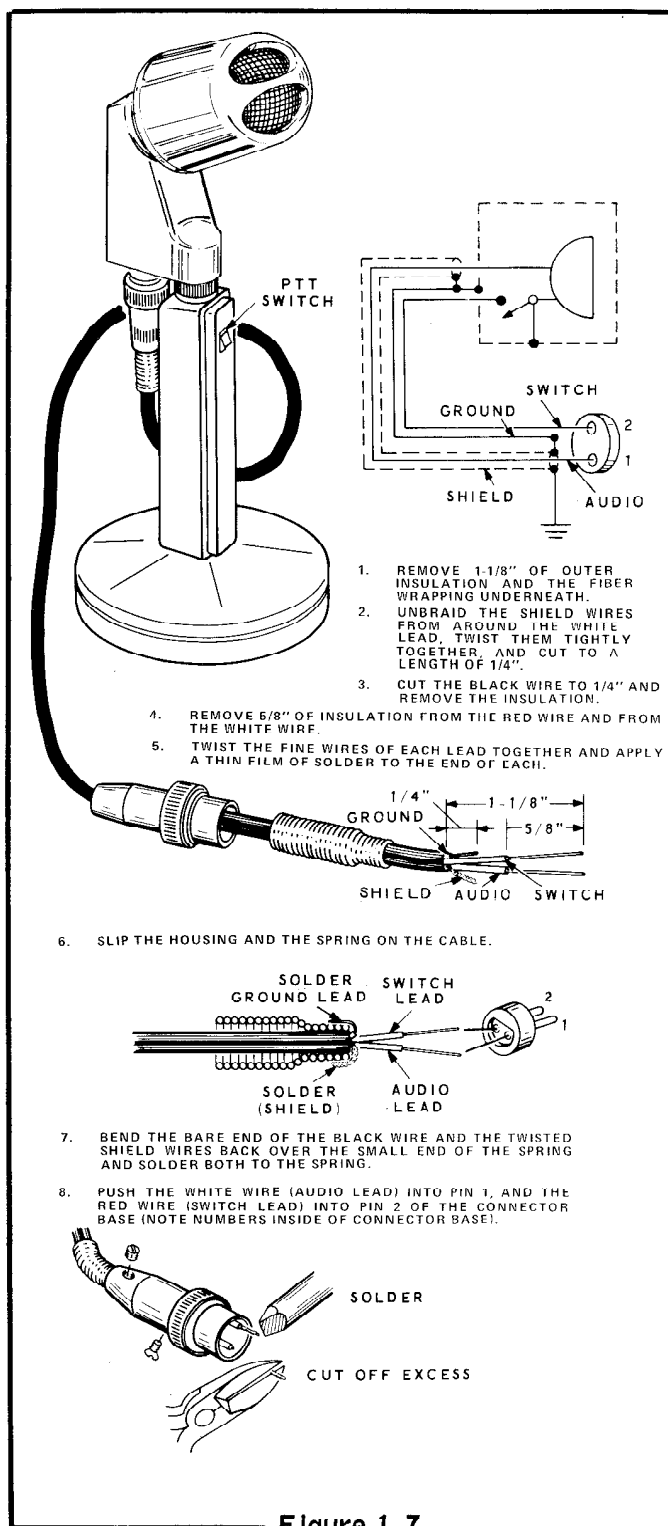

Figure 1-7
Refer to Figure 1-7 for the following steps.
- ( ) Perform the numbered steps in Figure 1-7.